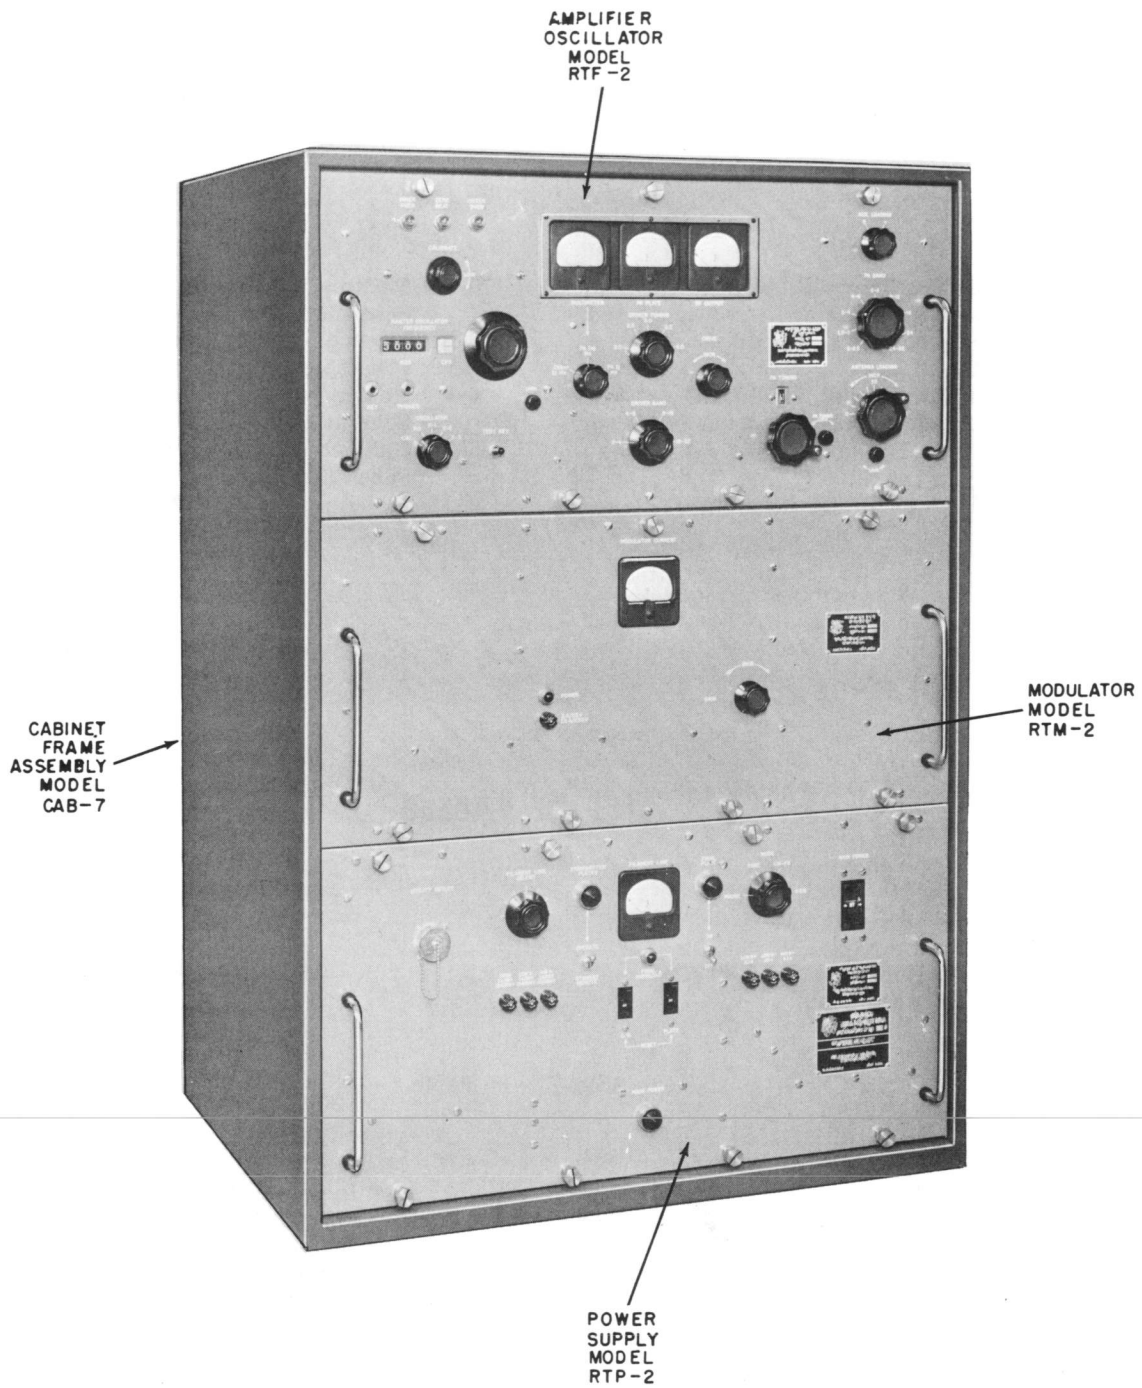

Figure 1-1. Radio Transmitter Model GPT-750B-2
This manual covers Radio Transmitter Model GPT-750B-2 (figure 1-1) manufactured by the Technical Materiel Corporation. The information contained in this manual is presented on a system basis and will aid operating personnel in realizing the full performance capabilities of the equipment. Complete description, installation, system and unit trouble-shooting, maintenance instructions, and a parts list comprise this manual. The parts list provides all information required to order any repair part of the equipment.
c. The lower drawer (figure 1-1) contains Power Supply Model RTP-2 which provides operating power for the amplifier-oscillator and modulator. Eight captive screws secure the unit in the cabinet. All operating controls and indicators are mounted on the front panel; other adjustments are located in the relay deck and on the main power supply chassis. Handles on the front panel facilitate removal of the unit or opening the drawer for access to the internal adjustments.